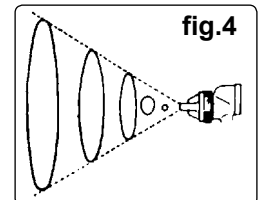

fig.4
- 6.3.3. The direction of the fan spray, either horizontal or vertical, is obtained by turning the air nozzle to the desired position then tightening the retaining ring. The spray pattern of the gun is variable from round to flat with all patterns in between. In normal operation, the wings on the nozzle are horizontal. This provides a vertical fan-shaped pattern which gives maximum uniform and even coverage when moving the gun back and forth, parallel to the work surface, see fig.4.